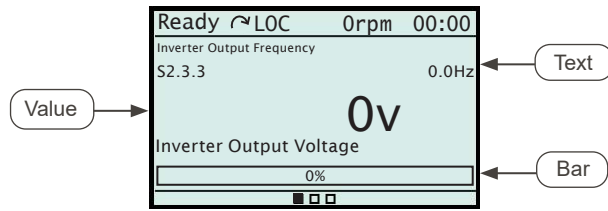

Figure 4.11: Inline View
- **Line:** in one line, it is possible to display a reading variable in the format **text, value or bar**. Figure 4.11 on page 77 shows an example with the three formats.